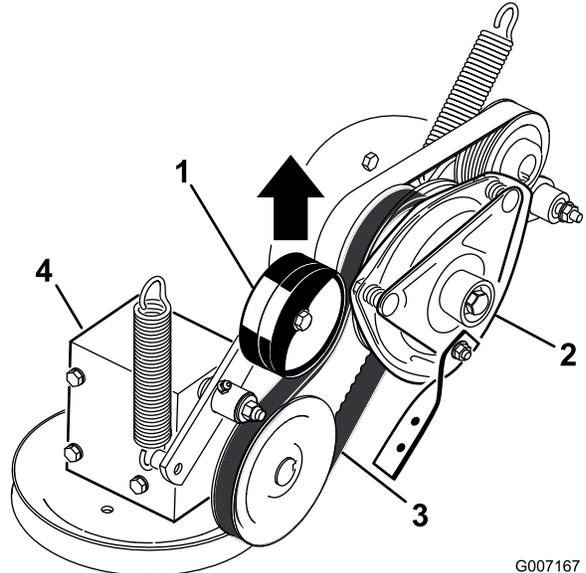

Figure 63
5. Pull up on the spring-loaded idler pulley for the PTO-drive belt and remove the belt from the clutch pulley (Figure 63).
17. Pull up on the spring-loaded idler for the PTO-drive belt and install it onto the clutch pulley (Figure 63).